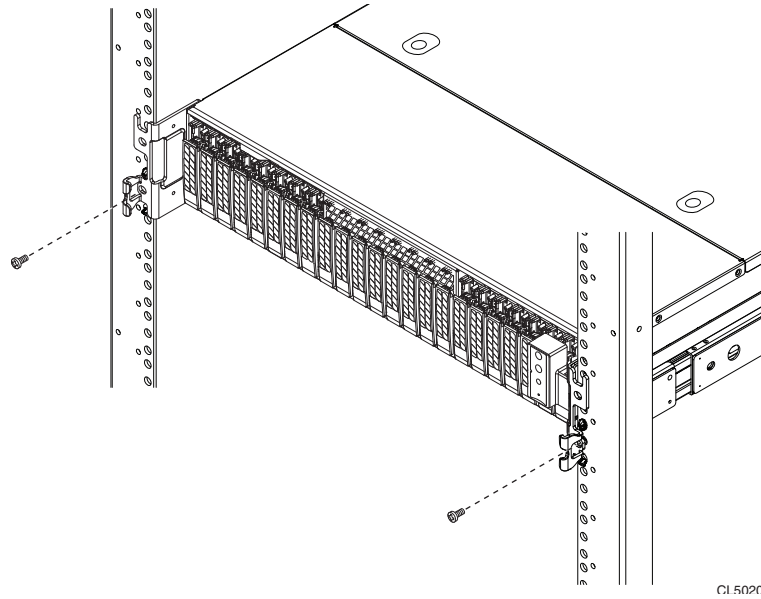

Figure 73 Installing the stabilizer screws
6. To further secure the rail assembly and server in the rack, insert and tighten a small stabilizer screw directly behind each bezel latch (Figure 73).